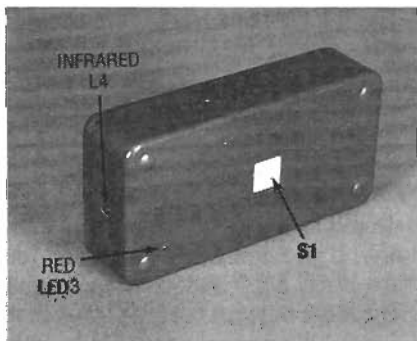
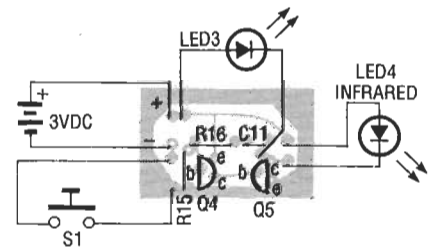

FIG. 6—YOU CAN ASSEMBLE THIS IR transmitter even smaller than the author's model. This project case is about the same size as a regular remote control.
FIG. 7—THE IR-TRANSMITTER PC board should take you about 5 minutes to stuff. Instead of using LED3 as an indicator, try a low-voltage buzzer.
1. Figure 6 shows what the IR transmitter should look like. Its assembly is uncomplicated, and any small project box can be used to house the transmitter. Drill a hole in the box's front just large enough for IR LED4 to peek through; then mount the circuit board, shown in Fig. 7, and position LED4 in the hole you just drilled. The flat side of LED4 is connected to C11. The optional indicator LED5 is located in the corner, and can be fixed securely in place with a small drop of *Krazy Glue*.